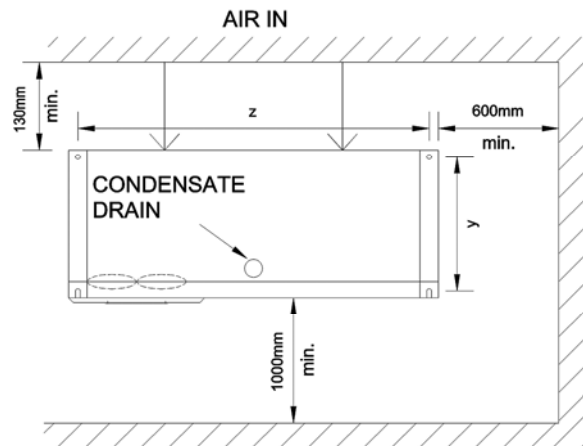

Figure 3.3 – ICU Wall Unit Positioning
The unit can either be mounted on a level surface or suspended from a vertical wall using the Qualitair wall mounting Optional kit (1) (not available on ICU180 units). The unit should always be mounted on a load bearing wall and not a partition wall. Ensure there is sufficient free area around the unit as detailed in Figure 3.3.
Ensure there is adequate air entry at the back of the unit as detailed in Figure 3.3 above.